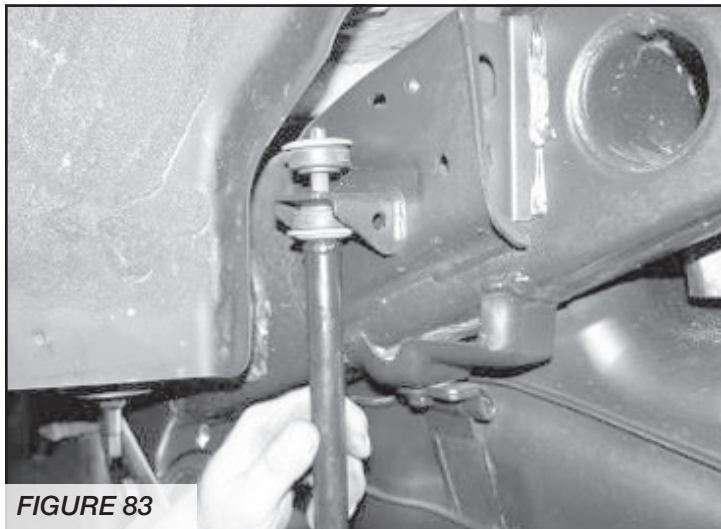

FIGURE 83
52. Locate FT70090 Sway Bar End Links and FT50116 Bushing Kit. Using an arbor press, press an hourglass bushing and FT50089 (sleeve) into the barrel end of the links. Install a cup washer and flat bushing on the stem of the end link and install into the mount on the frame. Place the other bushing and cup washer and supplied 3/8-24 fine thread nut (BAG 4) on the top of the link and leave loose. **SEE FIGURE 83**